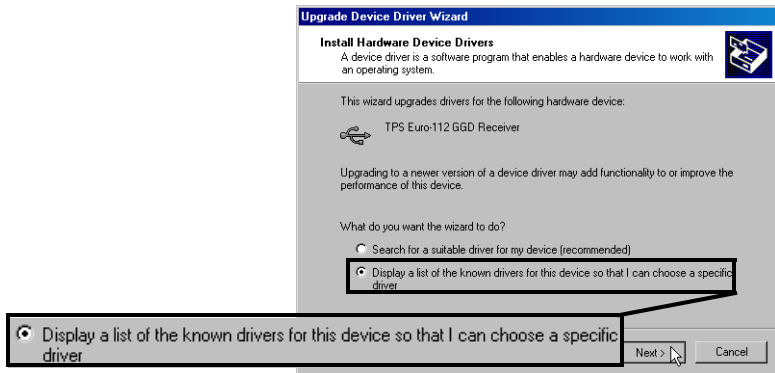

Figure C-27. Windows 2000 – Install Hardware Device Drivers
4. Select *Display a list of the known drivers for this device so that I can choose a specific driver* and click **Next** (Figure C-27 on page C-17).